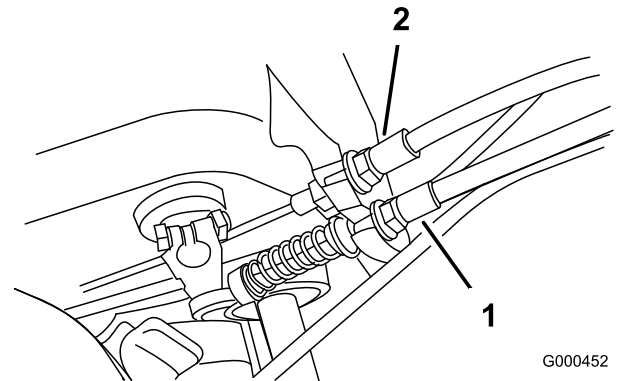

Figure 44
2. To increase cable tension, loosen front cable jam nut and tighten back cable jam nut (Figure 44) until a force of 12-16 lb. is required to engage traction control.